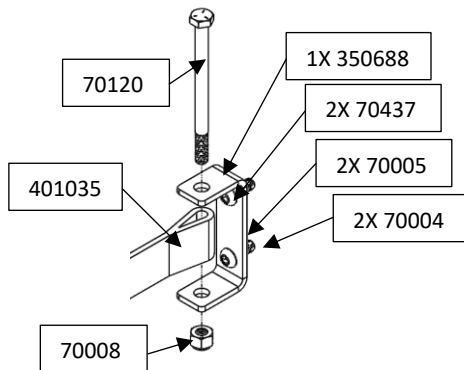

Figure 17: Complete Door Stop Install
27. Thread the other side of the door stop strap into door jam bracket (installed in Step 25 using 1/4"-20 x 3" bolt and 1/4"-20 nylock nut) (Figure 17).